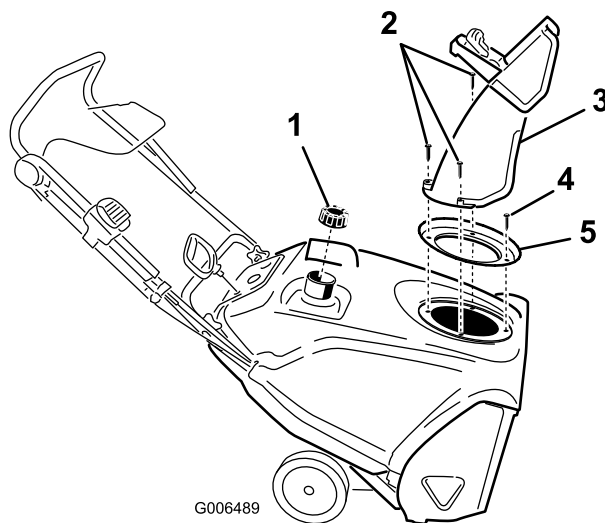

Figure 24
- Remove the discharge chute, the discharge chute handle, and the chute seal by removing the 3 large screws and one small screw (Figure 24).
- Large screws (3)
- Remove the 4 screws that secure the shroud (Figure 24).